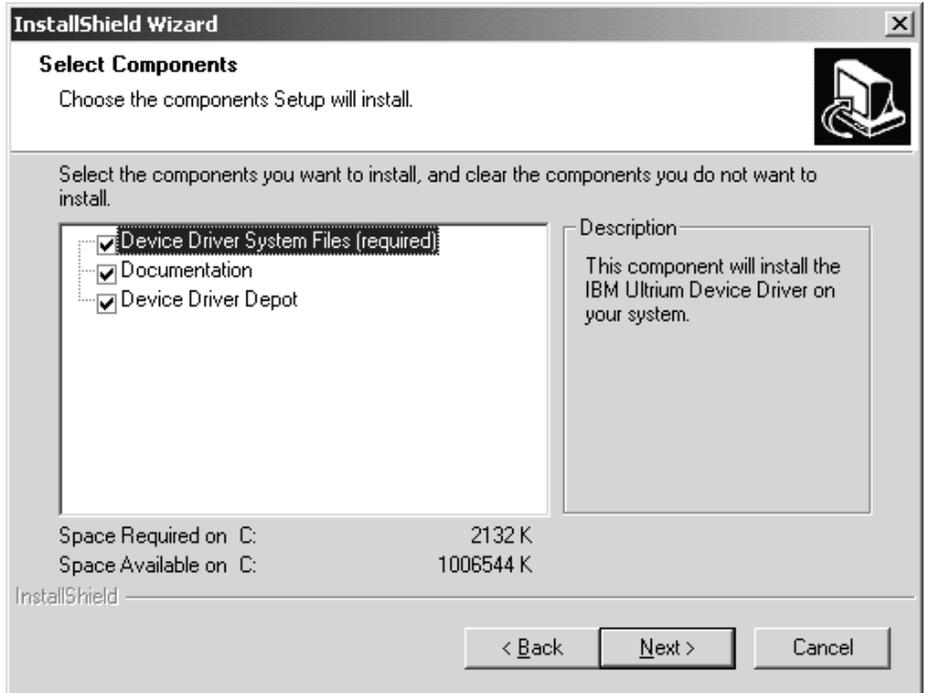

Figure 22. Select Components Menu
- c. If you choose **custom** installation, the program will allow you to choose which components to install. See Figure 22.